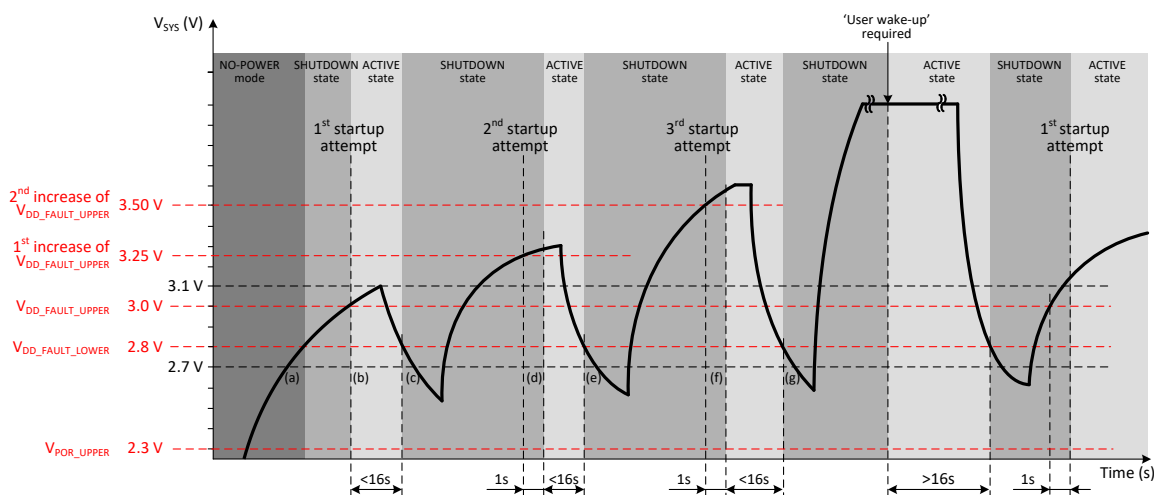

Figure 14: VDD\_START Faults
The DA9063 `VDD_START` feature prevents endless looping of false starts in a weakly-powered system. `VDD_START` limits the number of automatic restart attempts to three. With reference to Figure 14:
- Figure 14(a): The PMIC starts from NO-POWER mode.
- Figure 14(b): First startup attempt. The PMIC transitions to the ACTIVE state when  $V_{SYS}$  rises above  $V_{DD\_FAULT\_UPPER}$ .
- Figure 14(c): If, during the first startup attempt, the  $V_{SYS}$  supply drops below  $V_{DD\_FAULT\_LOWER}$  for more than 100 ms, the PMIC shuts down to the SHUTDOWN state.  $V_{DD\_FAULT\_UPPER}$  is increased automatically by 250 mV. However, the increased  $V_{DD\_FAULT\_UPPER}$  is limited to a maximum of 3.70 V.
- Figure 14(d): Second startup attempt. If  $V_{SYS}$  rises above the new  $V_{DD\_FAULT\_UPPER}$  threshold, then the PMIC will power-up to the ACTIVE state.
- Figure 14(e): If, during the second startup attempt, the  $V_{SYS}$  supply drops below  $V_{DD\_FAULT\_LOWER}$  for more than 100 ms, the PMIC shuts down to the SHUTDOWN state.  $V_{DD\_FAULT\_UPPER}$  is increased automatically by a further 250 mV (500 mV above its original setting). However, the increased  $V_{DD\_FAULT\_UPPER}$  is limited to a maximum of 3.70 V.
- Figure 14(f): Third startup attempt. If  $V_{SYS}$  rises above the new  $V_{DD\_FAULT\_UPPER}$  threshold, then the PMIC will power-up to the ACTIVE state.
- Figure 14(g): If, during the third startup attempt, the  $V_{SYS}$  supply drops below  $V_{DD\_FAULT\_LOWER}$  for more than 100 ms, the PMIC shuts down. From then on, `AUTO_BOOT` and wake-up from non-user events are temporarily disabled. 'User events' are defined in Table 40.